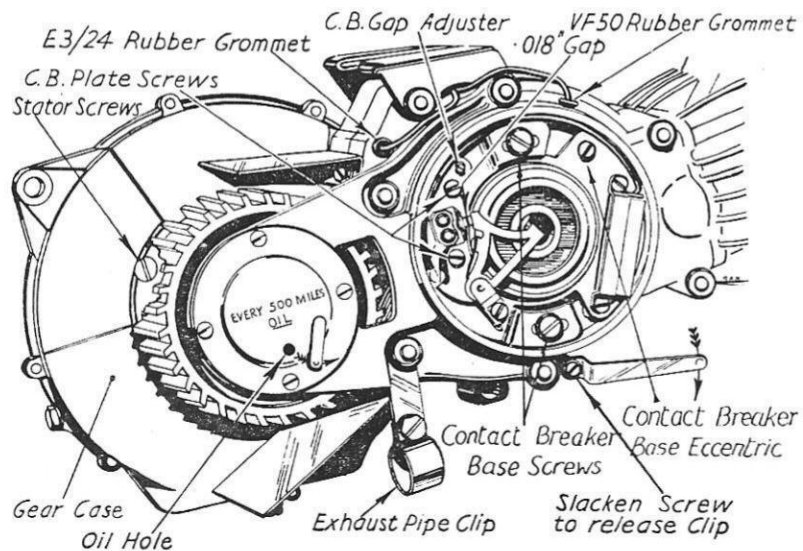

Fig. 3.
Lubricate the contact breaker fibre pad with a few drops of engine oil. (See Fig. 3.) Oil the front and rear slides of the engine suspension and do so more frequently during bad weather conditions. Inject a few drops of SAE50 engine oil into the hole provided in the cover plate of the right-hand driving roller ball bearing.
1. Contact Breaker Gap (See Fig. 3).